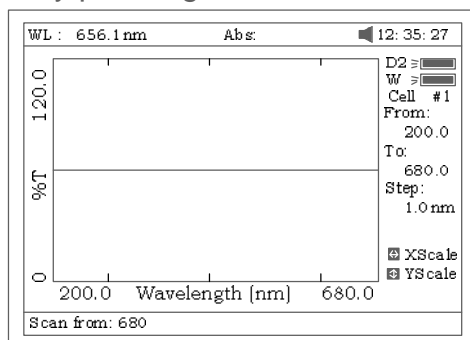

Fig 42
1. Press **【F1】** to setup, input the start wavelength, and end wavelength by pressing the numeric keypad (Fig 42). Note: The UV-4802 scans from high to low wavelength. Browse and select the items of scan step and scan speed by pressing **【↑】** or **【↓】**.